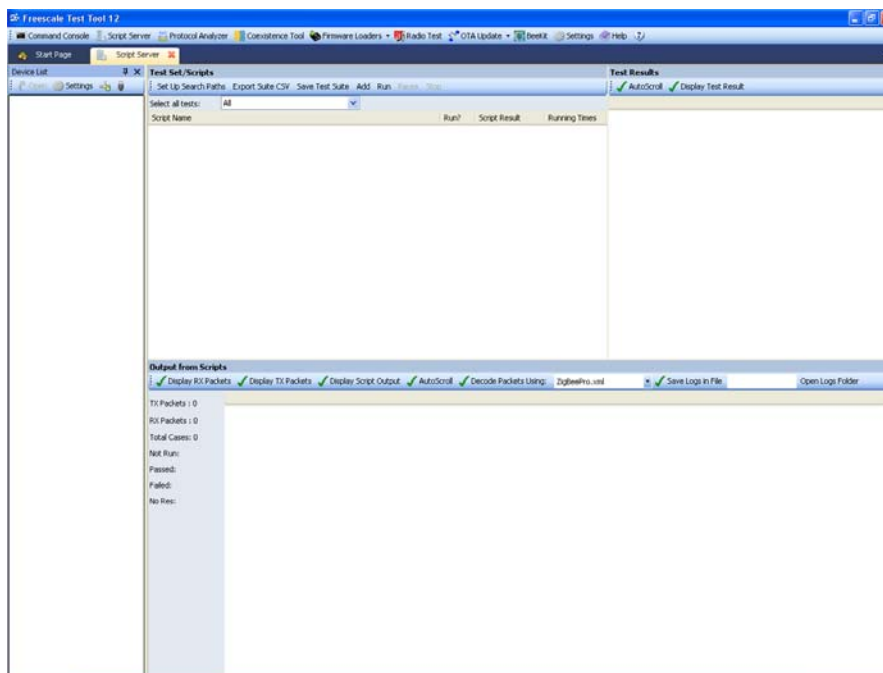

Figure 3-1. Script Server Window
Figure 3-1 shows the Script Server window.
1. From the Test Tool tool bar, click on Script Server and the Script Server view appears as shown in Figure 3-1.